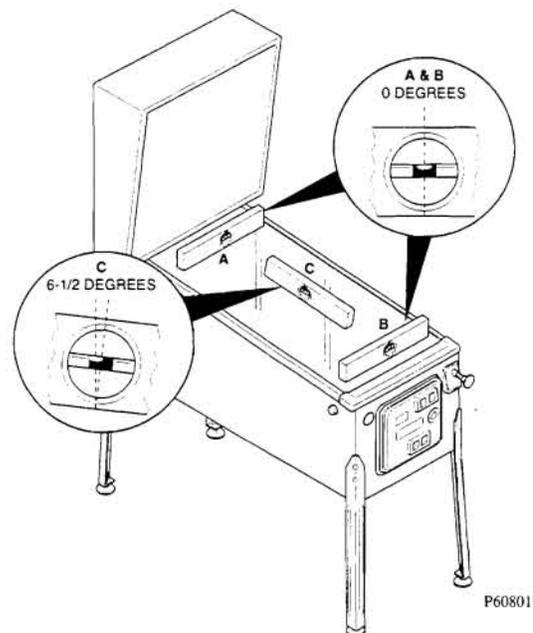

FIGURE 9: CABINET LEVELING
18) Place a level in position "A" on the playfield glass (see Figure 9). Adjust the rear leg levelers, as required, to obtain zero degree(0°) balance. Move the level to position "B" and repeat front & rear adjustments until cabinet appears level. Move the level to position "C" and adjust front and/or rear leg levelers to obtain a 6-1/2° incline. Tighten leg leveler nuts firmly.